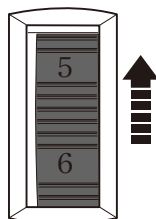

Fig. 4
- > Turn the speed dial (1) forward (as seen from the operator's position) to increase the maximum speed (Fig. 4). A higher setting is suitable for cutting with fine saw blades and soft materials.